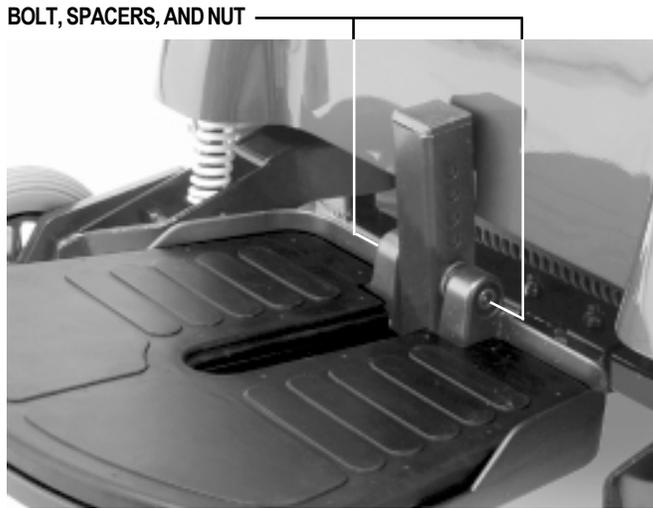

Figure 10. Footrest Height
1. Use a hex key to remove the bolt, spacers, and nut from the footrest. See figure 10.